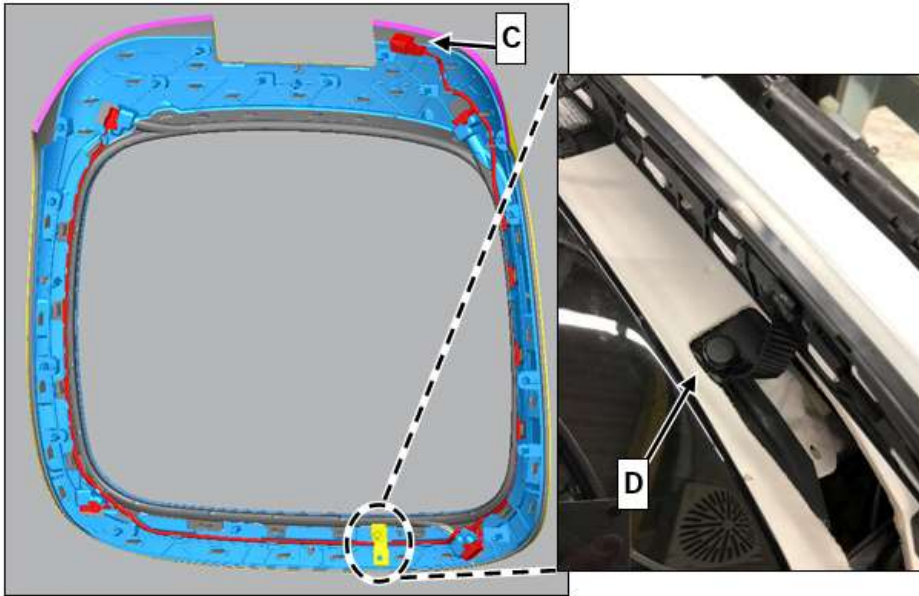

Figure 23
13. Connect electrical connectors (C), attach lower securing clip (D), and install/clip in outer backrest mounting strip to the front seat in reverse order (figure 23).